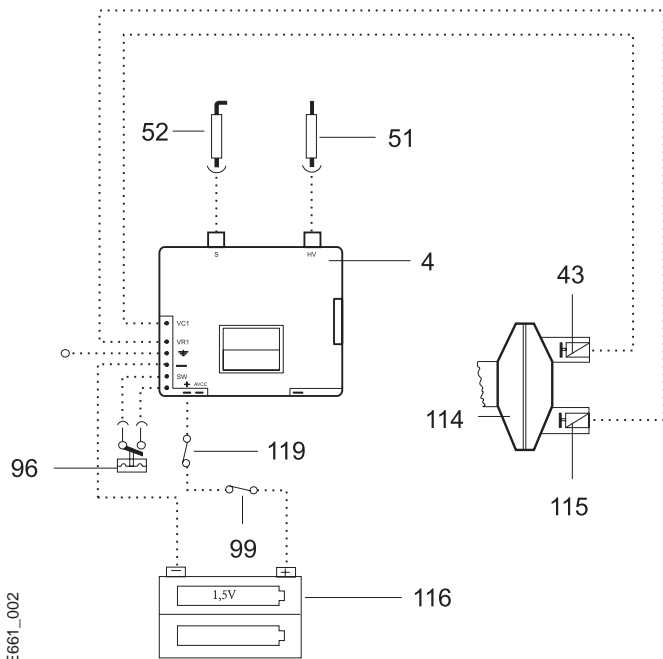

Fig. 13 - Electrical wiring diagram
5. Pilot electrovalve switch may need to be replaced (See Fig 13).
6. Electronic Control Box may need to be replaced (See Fig 13).
4. The electrical Control Box (Fig. 13) may need to be replaced.